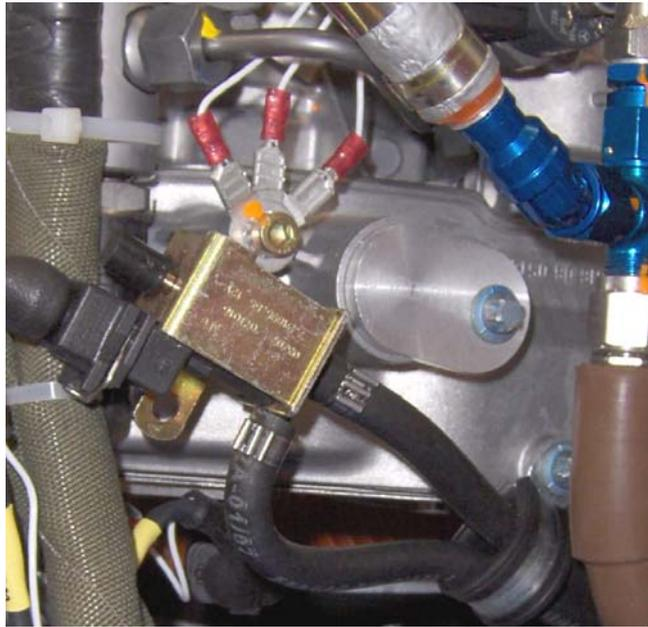

Bild 1/ Figure 1
- When boost control valve is installed without support lug, see Figure 1 and Figure, proceed with A, or